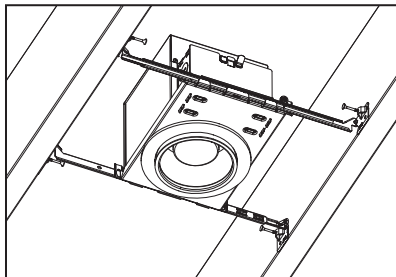
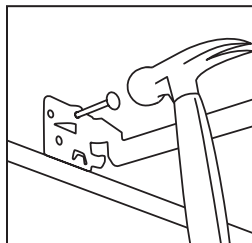

Figure 2
Figure 3
Step 1. Extend bar hangers to fit between joists. Bar hanger foot is contoured to easily align with bottom of joist (Fig. 2). Position fixture by hammering Real-Nails® into joists (Fig. 3).